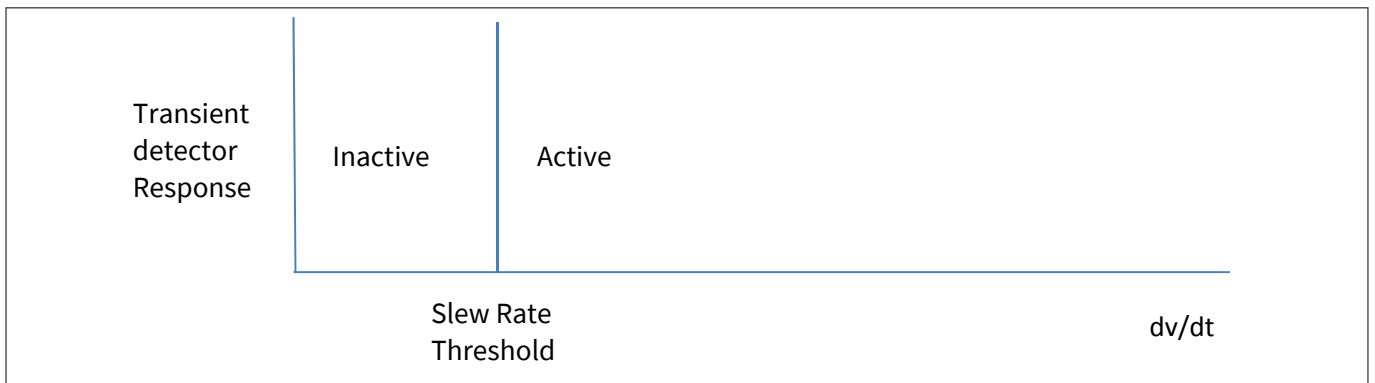

Figure 6 Transient detector response
(1) A transient detector blocks the toggling of the high side output when it detects moving phase node (due to transition and/or oscillation). It prevents unwanted re-toggling but may increase propagation delay. See Figure 6 and Figure 7 for more information and link to *Understanding the transient detector* (References) for more information.
(2) No subject of final test